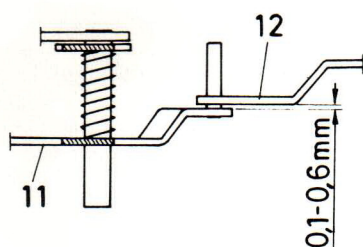

Fig. 9
JUSTERING AV SPEL MELLAN URKOPPLINGSARM (11) OCH START- OCH STOPPARMEN (12). FIG 9.